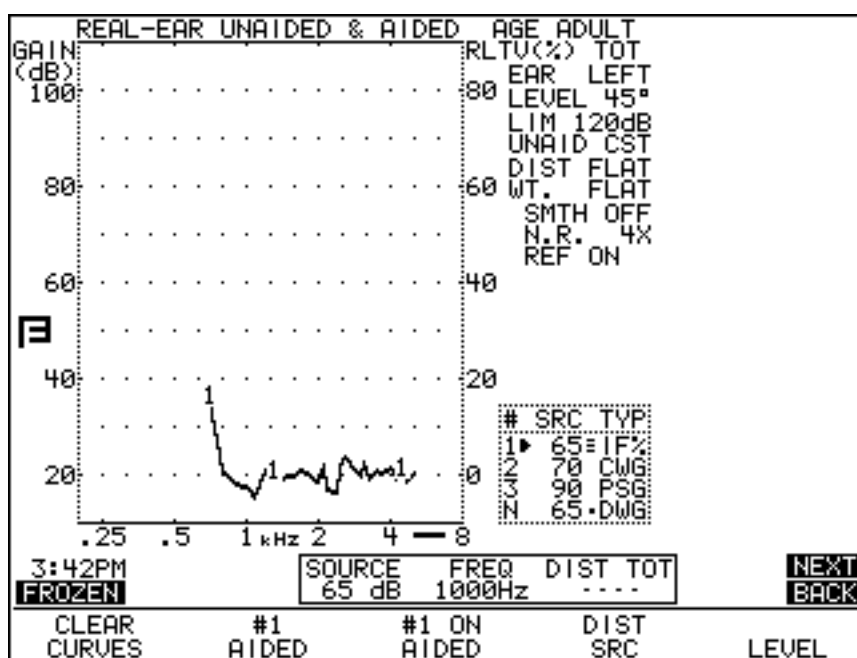

Figure 5.7.3.2—Real-Ear IM distortion sweep
14. Press [START/STOP] to start the IM distortion sweep. See Figure 5.7.3.2.